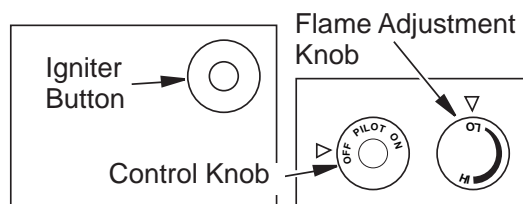

Figure 39 - Control Knob and Igniter Button Location
5. Wait five (5) minutes to clear out any gas. Then smell for gas, including near the floor. If you smell gas, STOP! Follow "B" in the safety information, column 1. If you don't smell gas, go to the next step.
6. Press in and turn control knob counter-clockwise  to the PILOT position. Press in control knob for five (5) seconds (see **Figure 39, Page 24**).